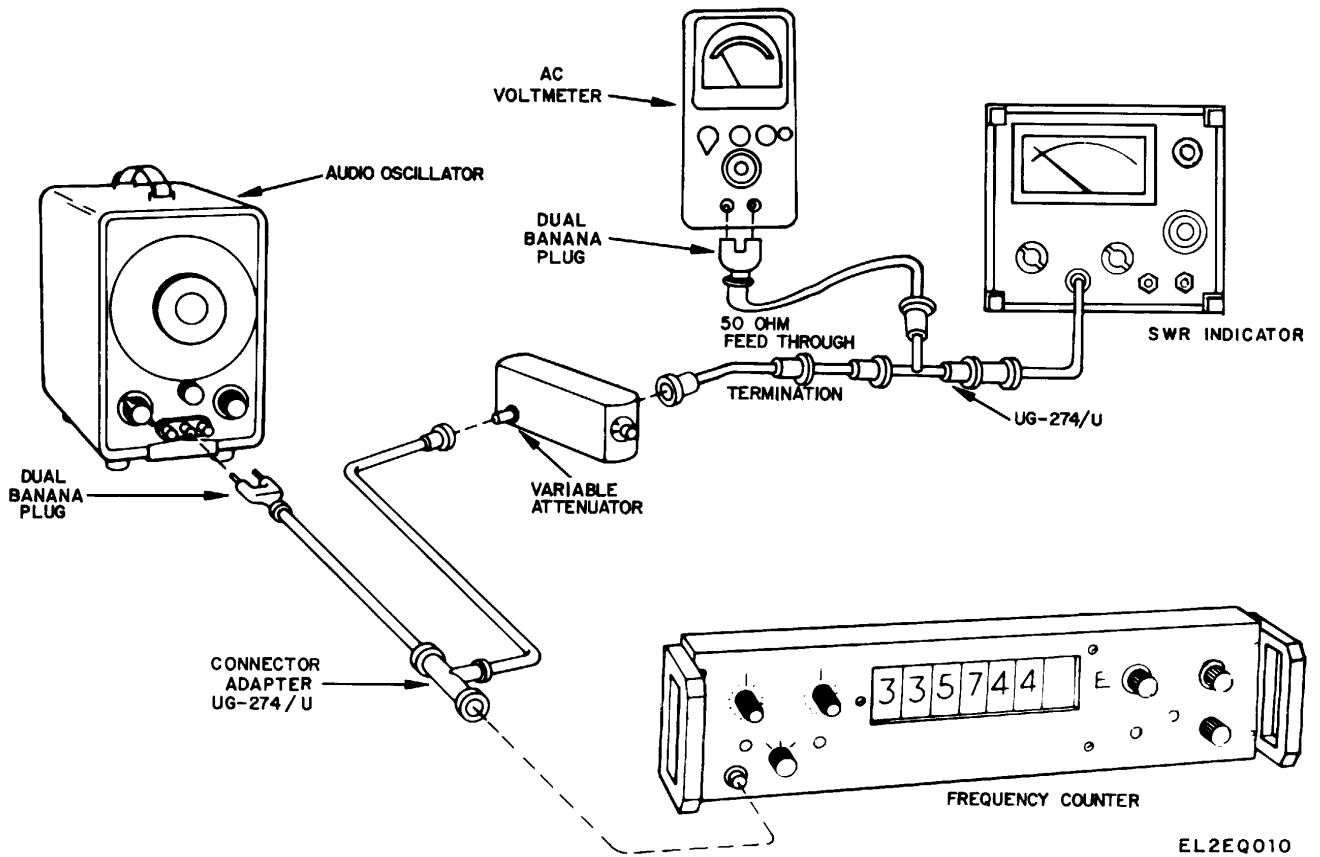

Figure 3-9. Sensitivity and noise test setup.
- (1) Signal Generator AN/USM-205.
- (2) Electronic Digital Readout Counter AN/USM - 207.
- (3) Attenuator CN-970/U.
- (4) 50 ohm feed-through termination.
- (5) Voltmeter ME-264/U.
(6) 100 ohm + 1%, low noise resistor.
(7) 5000 ohm * 1%, low noise resistor.
b. Test Connections and Conditions. Connect the equipment as shown in figure 3-9. Allow sufficient time for equipment to warm up and stabilize.